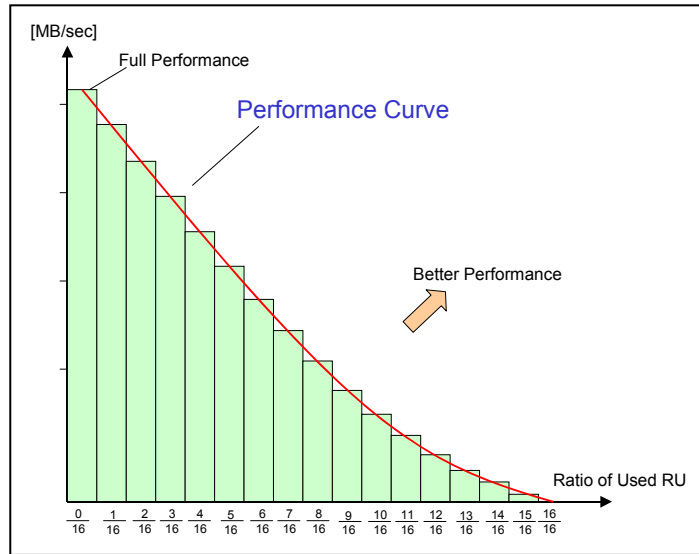

Figure 4-29: Card Performances between 16 RUs
Figure 4-29 shows the write performances bar chart of P(Nu) of equation (1). An AU consists of 16 RUs in this example. Joining the points of each bar shows the performance curve, which can be determined from the two parameters, Pw and Pm.